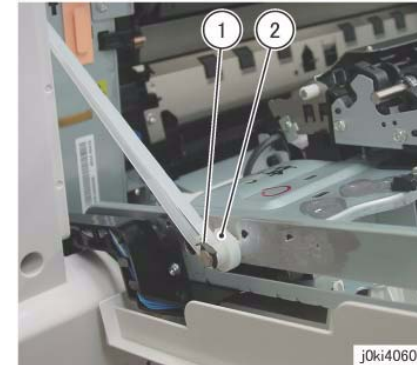

Figure 2 Remove the Rear Support
8. Remove the Rear Support from the L/H Cover Unit. (Figure 2)